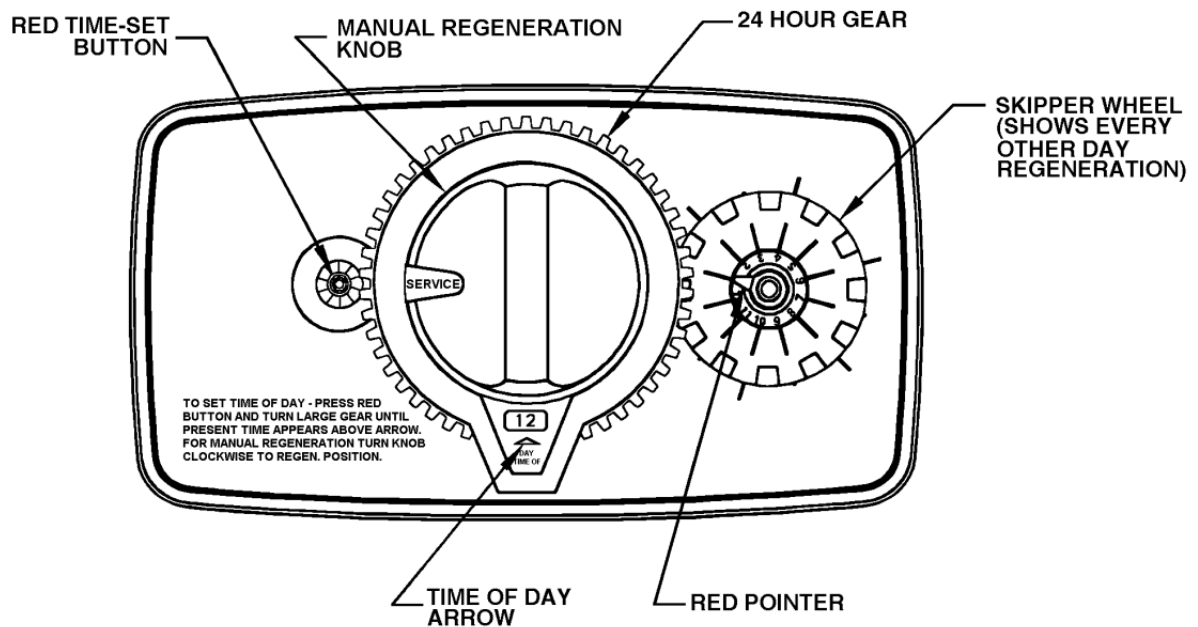
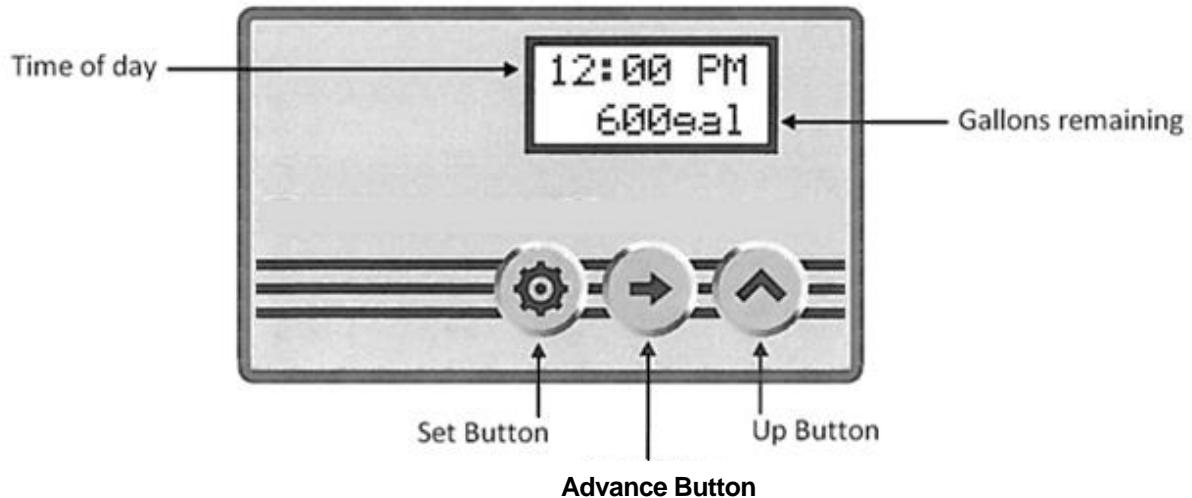

FIGURE 5: Front of Time Clock Timer Assembly
FIGURE 6: Front of Electronic Meter Timer Assembly
- STEP 13:** For the **NB** Series rotate the Manual Regeneration Knob (see Fig. 5, page 7) to the "Backwash" position.
- For the **NEB** Series plug transformer into an un-switched electrical outlet and attached the power cord to the control valve. Then press and hold down the center "ADVANCE" button for 5 seconds and release after "GO TO BW" appears on the screen (see Figure 6, page 8). When the backwash countdown timer begins, unplug the transformer from the electrical outlet.
- STEP 21:** Set the current time of day on the timer (note AM and PM) (refer to Figure 5, page 7 or Figure 6, page 8).